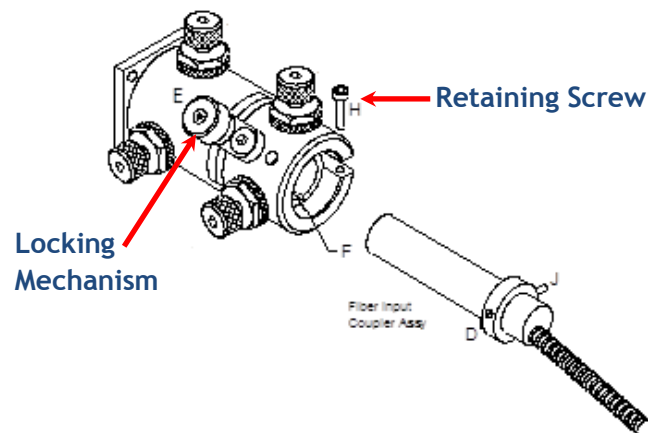

Figure 3-4: kineMATIX[®] manipulator with fiber input coupler
- a) First, remove the retaining screw H on the kineMATIX® manipulator; see Figure 3-4.